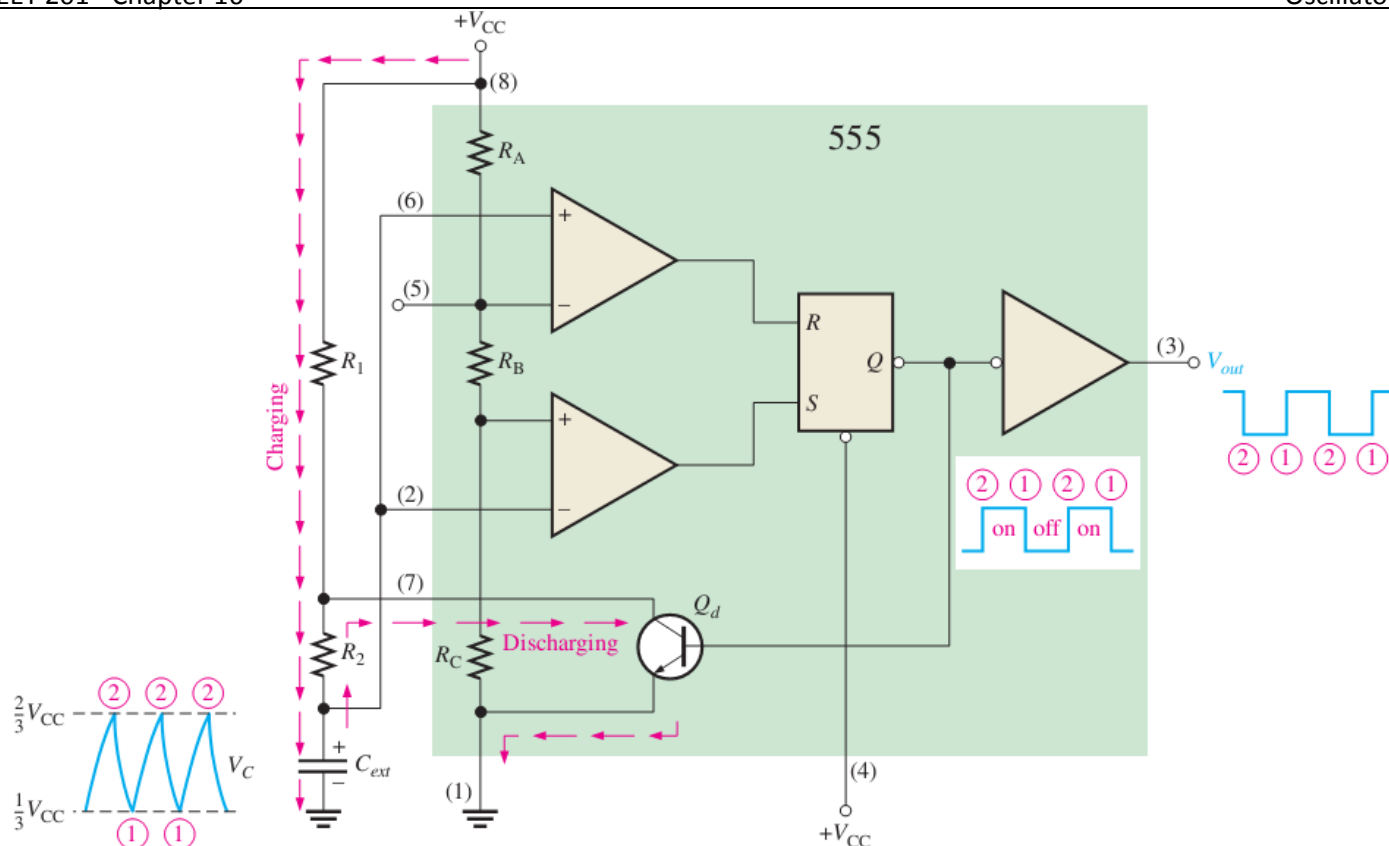

Figure 31 Operation of the 555 timer in the astable mode.
- Now, C_{ext} begins charging through R_1 and R_2 as indicated in Figure 31.